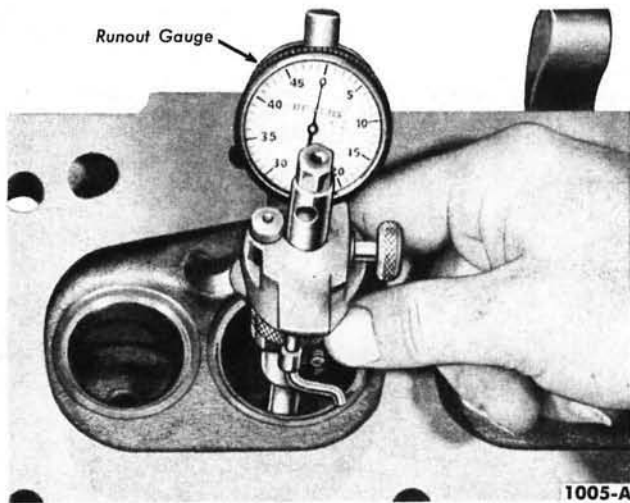

FIG. 5—Valve Seat Runout—Typical
**Valve Seat Runout.** Check the valve seat runout with an accurate gauge (Fig. 5). Follow the instructions of the gauge manufacturer. The total runout should not exceed the wear limit.